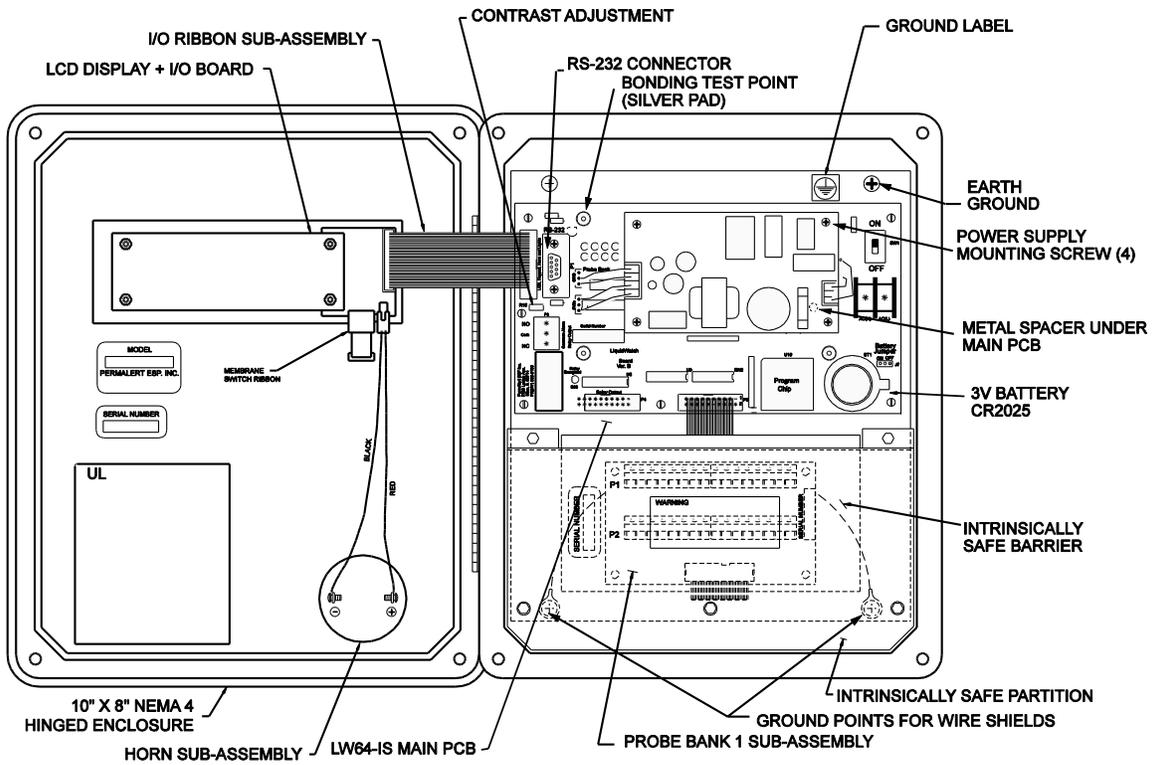

Figure 2
7. Install the lead cables using the instructions in this manual. The cable must exit the enclosure under the partition for LiquidWatch Model LW64-IS (see Figures 2 and 3).